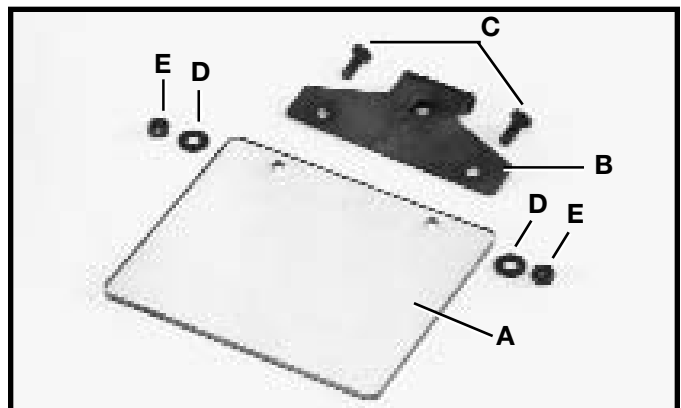

Fig. 6
1. Place shield (A) Fig. 6, under the lip of frame (B). Align the two holes in the shield with the two holes in the frame and fasten together using two #10-24x1/2" round head screws (C), 15/32" flat washers (D), and #10-24 nuts (E). Assemble the other shield in the same manner.